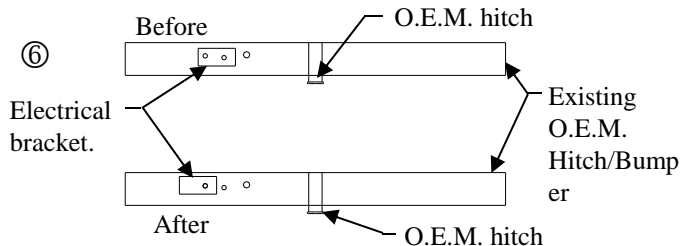

Figure 3.
2. Relocate existing electrical bracket. Remove (2) screws and shift the bracket toward the drivers side using the inside screw hole on bracket and outside weld nut (See Figure 3).